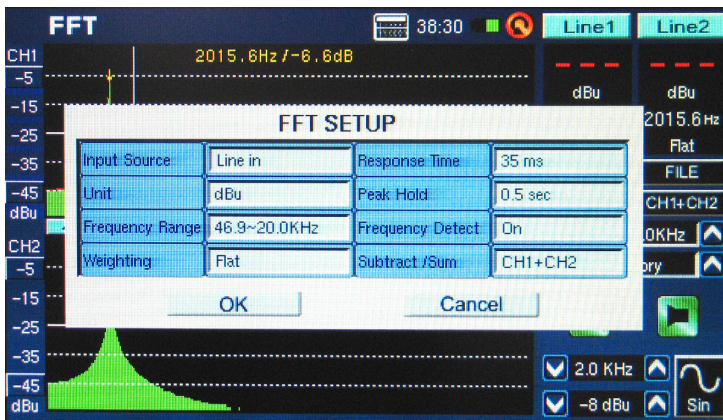

figure 33
3. Set the 'weighting' of the FFT. The most common weighting for many applications is flat (ie. no weighting). (figure 33)
4. Also set the response time, and turn the peak hold and frequency detect on or off as required. (figure 33)